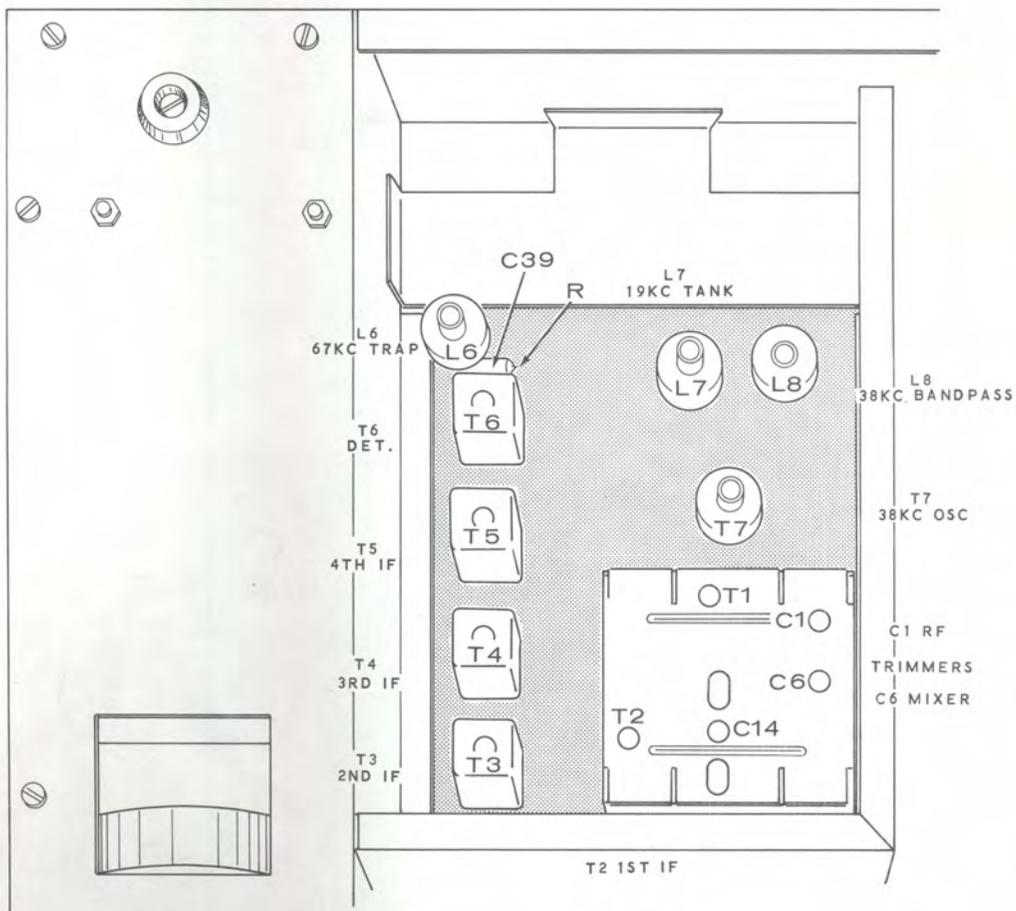

FIGURE 4
- ( ) Disconnect the negative lead of capacitor C39 from the circuit board at point R. See Figures 4 and 5 (fold-out from Page 65).